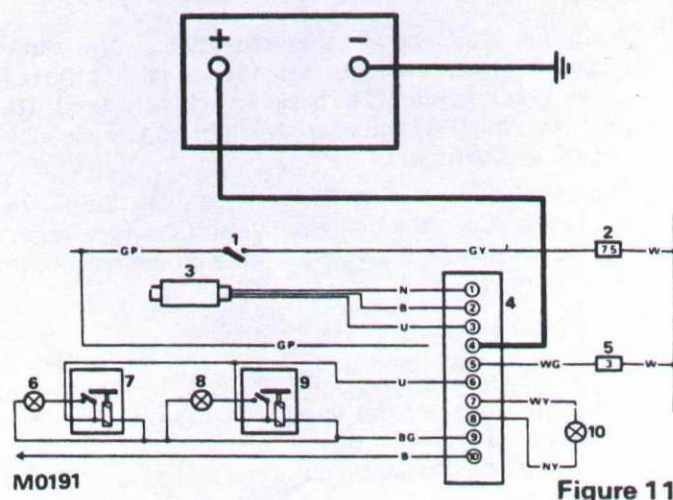

Figure 11
- 2 Connect positive lead from 12 volt slave battery to terminal 4 as shown in figure 11 and switch on vehicle ignition. This should simulate the operation of the brake light switch and activate the rear door locks.